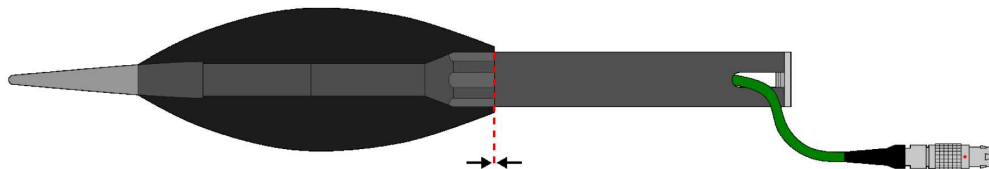

Figure 3.8: Mounting the windscreen
Then carefully slide the microphone unit into the **protective sleeve (E)** until the head of the microphone capsule is at the end of the sleeve. Now you can screw the sleeve back onto the **shaft (G)**. Keep the weather protection at a slight angle, so that the head surface of the microphone remains at the end of the sleeve and does not slip. Tighten the previously loosened **shaft head (F)** to fix the microphone. The weather protection can now be set up vertically without the microphone lowering. Finally the **Windscreen (D)** can be put on again. Make sure that the lower end of the windscreen is flush with the **shaft head (F)** (figure 3.8).